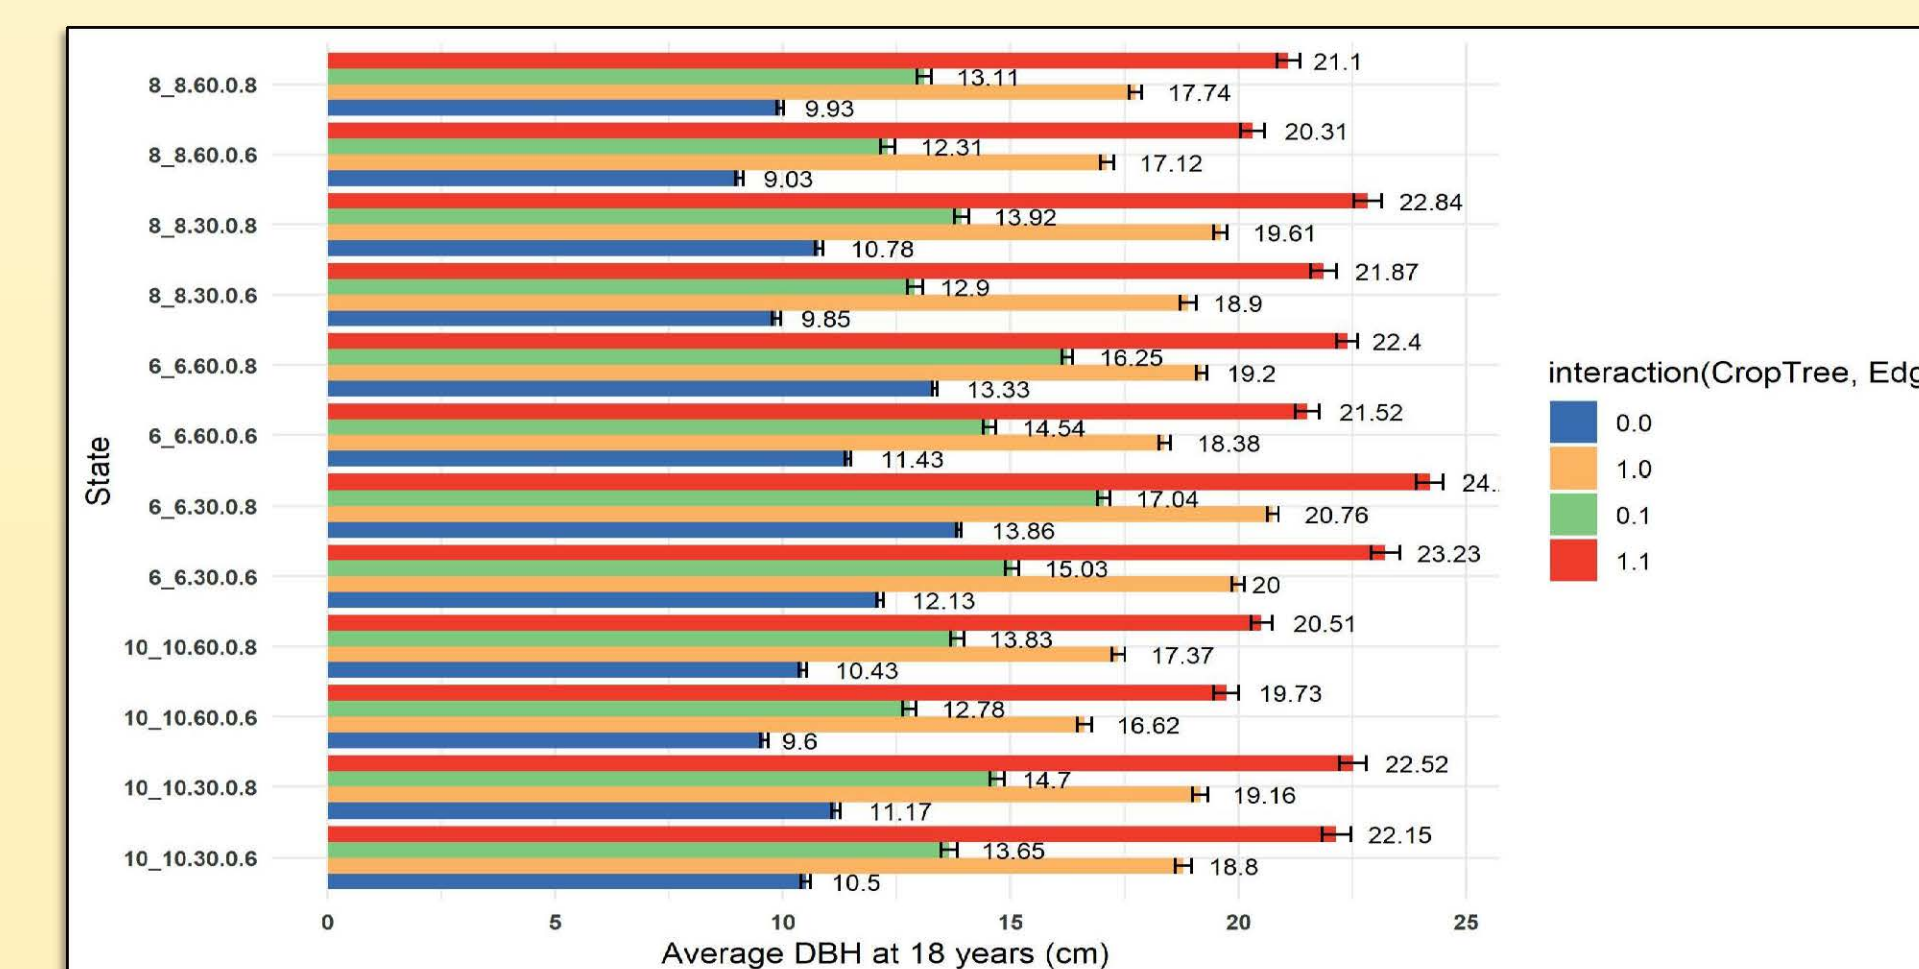

Fig 1 : Average DBH (cm) at Age 18 for a crop release thin at Age 10
- Average DBH at 18 (Fig 1) not only differs across initial conditions but is influenced by tree classification (crop/non crop) and location (edge/interior) in the stand.
- 6 x 6 plantings with 30 crop trees (CT) per acre with 80% seedling survival by year 5 has the highest tree DBHs.
- DBH under a no thin control at Age 18 (Fig 2) illustrates successful implementation of crown thinning strategy above. (Fig 1)